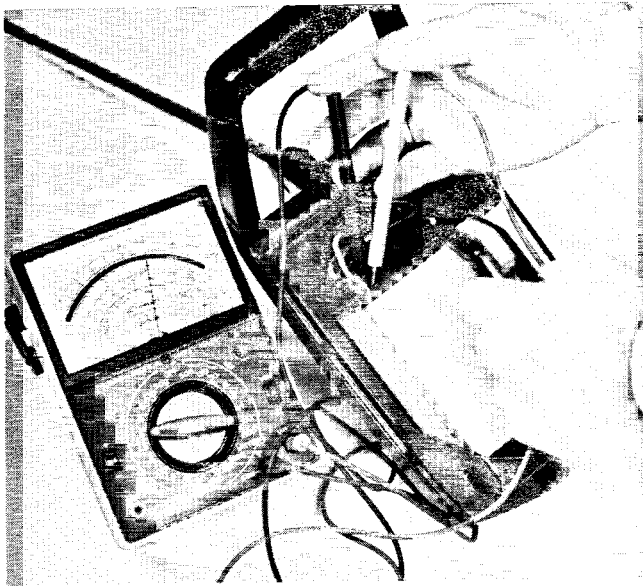

Figure 5.5
5.5 CHARGE BATTERY FOR 48 HOURS AND TEST (fig. 5.5)